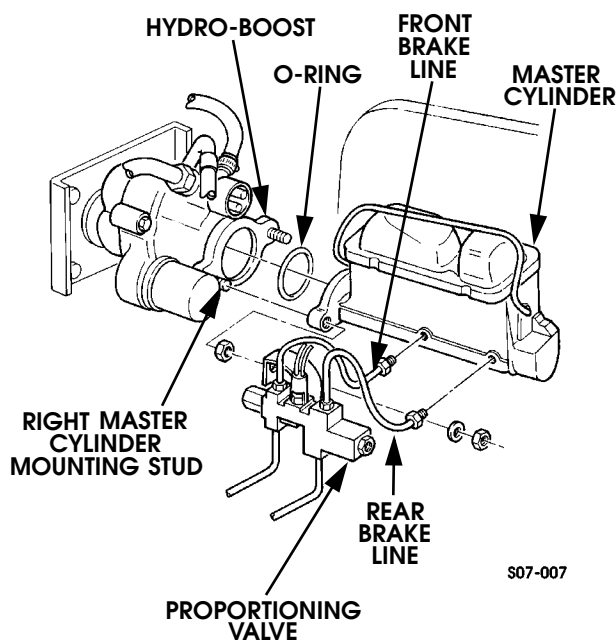

Figure 7-8: Master Cylinder
1. Disconnect front and rear brake lines from master cylinder (Figure 7-8).
3. Remove two locknuts and master cylinder from hydro-boost. Discard locknuts (Figure 7-8).
2. Install master cylinder to hydro-boost with two locknuts. Tighten locknuts to 22 lb-ft (30 N•m) (Figure 7-8).
3. Install proportioning valve to right master cylinder mounting stud with washer and locknut. Tighten locknut to 22 lb-ft (30 N•m) (Figure 7-8).